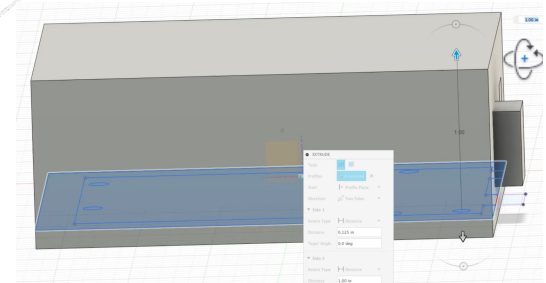

Figure 1.8
- This setting allows two independent arrows to appear, letting you control each direction separately. Pull one side down $\frac{1}{8}$ inch and the other side up 1 inch to create thickness and space for the lid. This provides proper clearance and ensures there's room for the lid to fit (see Figure 1.8).